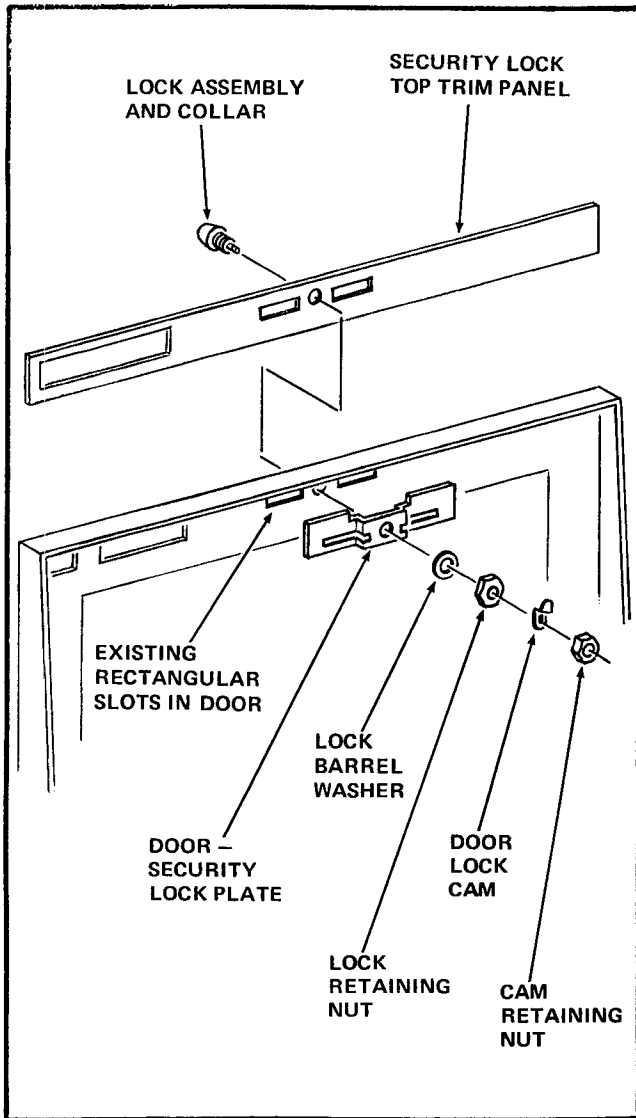

Figure I-2
1. *If the Door has a rectangular hole on each side of the Lock Hole skip to and follow steps I-15 through I-21. See Figure I-2.*
2. *If the Door has a rectangular hole on each side of the Lock mounting hole, skip to and follow steps II-12 through II-20. See Figure I-2.*